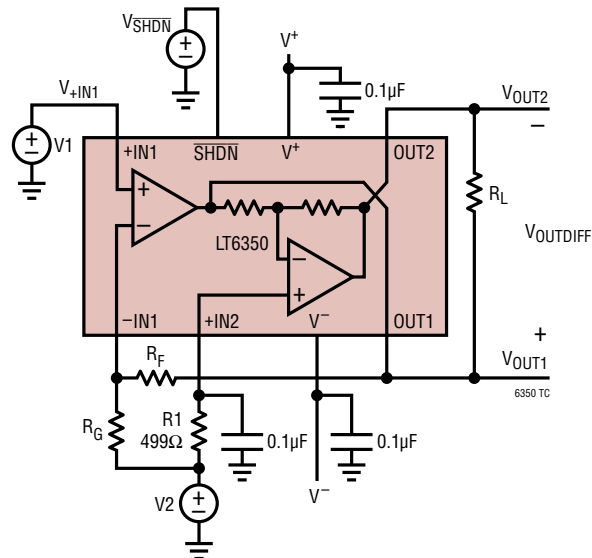

Figure 1. DC Test Circuit.
**Note 6:**  $V_{OS2}$  is measured as the total output common mode voltage offset (error between output common mode and voltage at V2).  $V_{OS2}$  includes the combined effects of op amp 2's voltage offset,  $I_B$ ,  $I_{OS}$  and mismatch between on-chip resistors and the  $499\Omega$  external resistor, R1 (See Figure 1).
$T_A = 25^\circ\text{C}$ ,  $V^+ = 5\text{V}$ ,  $V^- = 0\text{V}$ ,  $V_{+IN1} = V_2 = \text{Mid-Supply}$ ,  $V_{SHDN} = V^+$ ,  $R_F = \text{SHORT}$ ,  $R_G = \text{OPEN}$ ,  $R_L = \text{OPEN}$ . See Figure 1.
$T_A = 25^\circ\text{C}$ ,  $V^+ = 5\text{V}$ ,  $V^- = 0\text{V}$ ,  $V_{+IN1} = V_2 = \text{Mid-Supply}$ ,  $V_{\text{SHDN}} = V^+$ ,  $R_F = \text{SHORT}$ ,  $R_G = \text{OPEN}$ ,  $R_L = \text{OPEN}$ . See Figure 1.